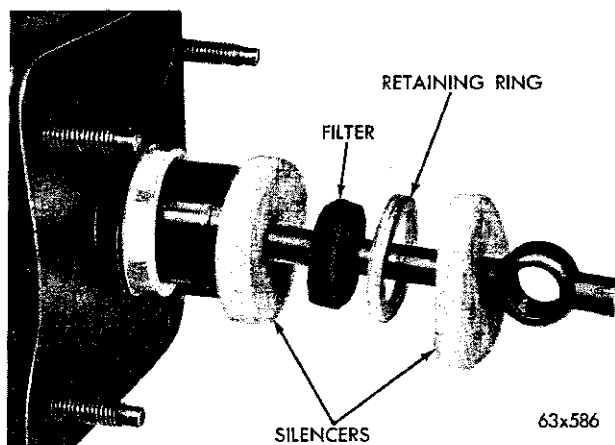

Fig. 16—Air Filter and Silencers
(1) Remove the four master cylinder attaching nuts and remove the master cylinder from the booster.
(2) Remove the dust boot from the back of the booster housing.
(3) Pry off the retaining ring on the back of the booster and remove the air filter and silencers (Fig. 16).